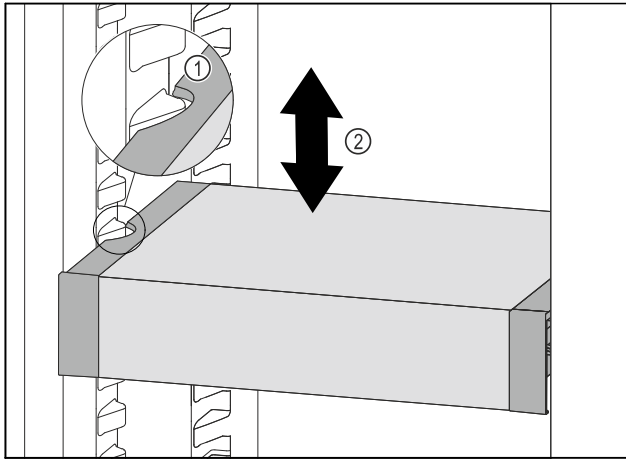

Fig. 52
- ▶ Pull VarioSafe forwards until the recesses in the side of the VarioSafe are at the level of the support rib in the refrigerator compartment. Fig. 52 (1)
- ▶ Move VarioSafe up or down in the refrigerator compartment until the desired height is reached. Fig. 52 (2)